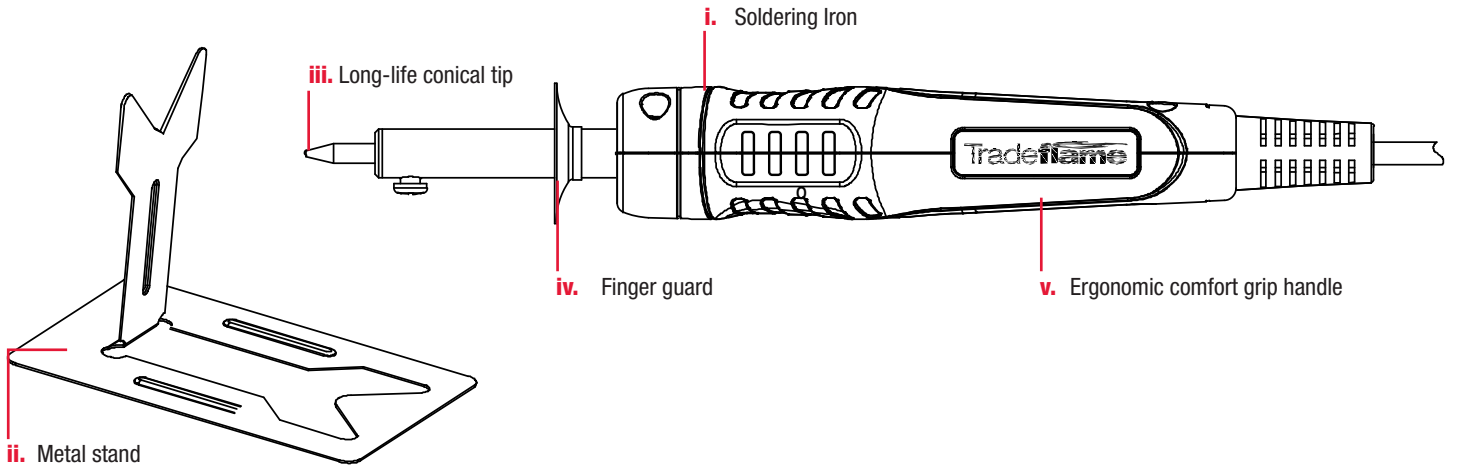
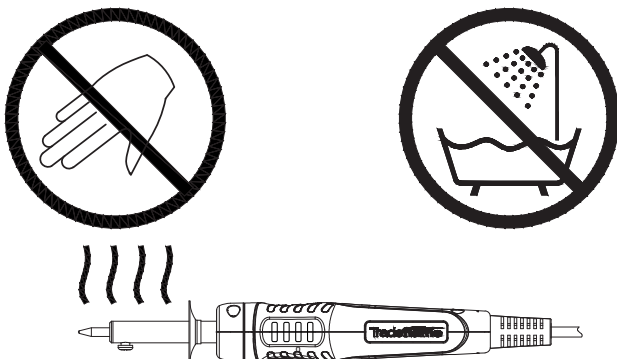

Fig. 1
Fig. 4 - WARNING - hot tip when in use, do not touch, keep Soldering Iron clean and away from oils and lubricants. Do not immerse Soldering Iron in water
- Indoor use. Do not expose Soldering Iron to rain or wet conditions. Water entering a Soldering Iron will increase the risk of electric shock (Fig. 4)
- Keep handles and grasping surfaces dry, clean and free from oil and grease. (Fig. 4) Slippery handles and grasping surfaces do not allow for safe handling and control of the Soldering Iron in unexpected situations.
- Keep hands clear of the tip serious burns can occur if skin contacts tip (Fig. 4)
- To reduce the risk of fire, personal injury, and product damage due to a short circuit, never immerse your Soldering Iron, battery pack or charger in fluid or allow a fluid to flow inside them. Corrosive or conductive fluids, such as seawater, certain industrial chemicals, and bleach or bleach-containing products, etc., can cause a short circuit. (Fig. 4)
- To reduce the risk of injury, always wear safety goggles or glasses with side shields. Keep hands and fingers behind finger guard (Fig.1 / iv). Serious burns could occur if skin contacts a hot tip.(Fig. 4)